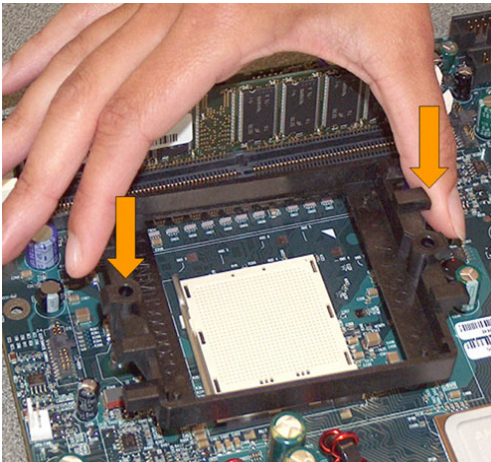

Figure 9. Retention Frame Screw Holes Aligned with Backplate Standoffs
8. The screw holes must align with the backplate standoffs. (See Figure 9.)